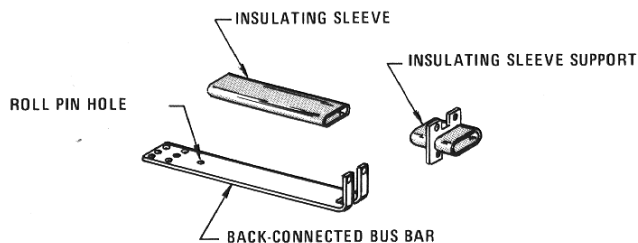
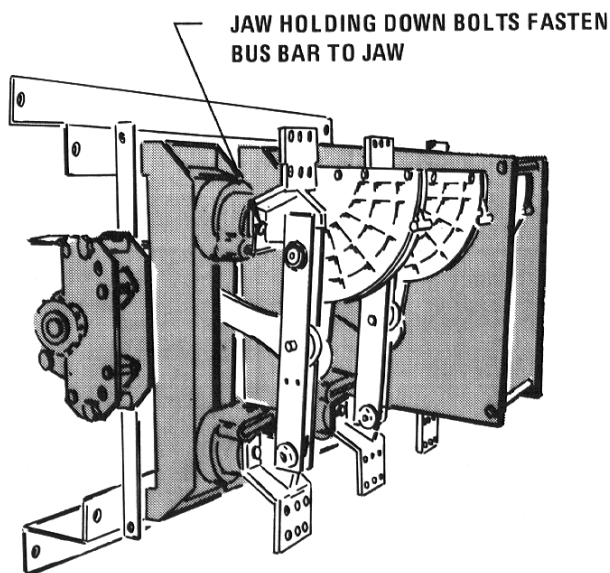
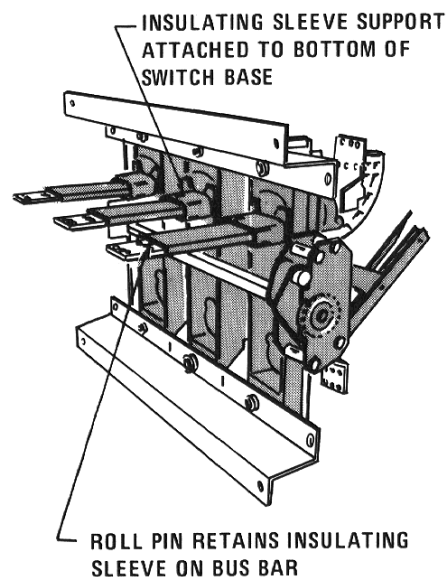

Fig. 17 Detail parts back-connected conversion kit
Fig. 18
Fig. 19
Back-connected bus bars may be added to the jaw end of the hinge end of the VersaSwitch by use of the back-connected conversion kit. A single-phase set of unassembled parts is shown in Fig. 17 for identification purposes. Fig. 18 shows a 3-phase assembly and how the bus bar mounting legs hook over jaw base and are attached with longer holding-down bolts. Fig. 19 shows a rear view of a 3-phase jaw end assembly.
- d. From front end of switch, insert the back-connected bus bar into the base slot at the jaw (or hinge) as shown in Fig. 18. Note when assembling bus bar at hinge end of switch, it may be necessary to disconnect the blade connecting link at the back of switch on 15 kV or at base end on 5 kV, to obtain sufficient blade travel to clear the bus bar. This is accomplished by removing the Tru-arc ring from the 3/8" pin that fastens the connecting link to the shaft or base. (Replace after assembling bus).
- i. Assemble insulating sleeve support (shown in Fig. 17) over the insulating sleeve, sliding it along the sleeve until it rests against switch base, see Fig. 19.